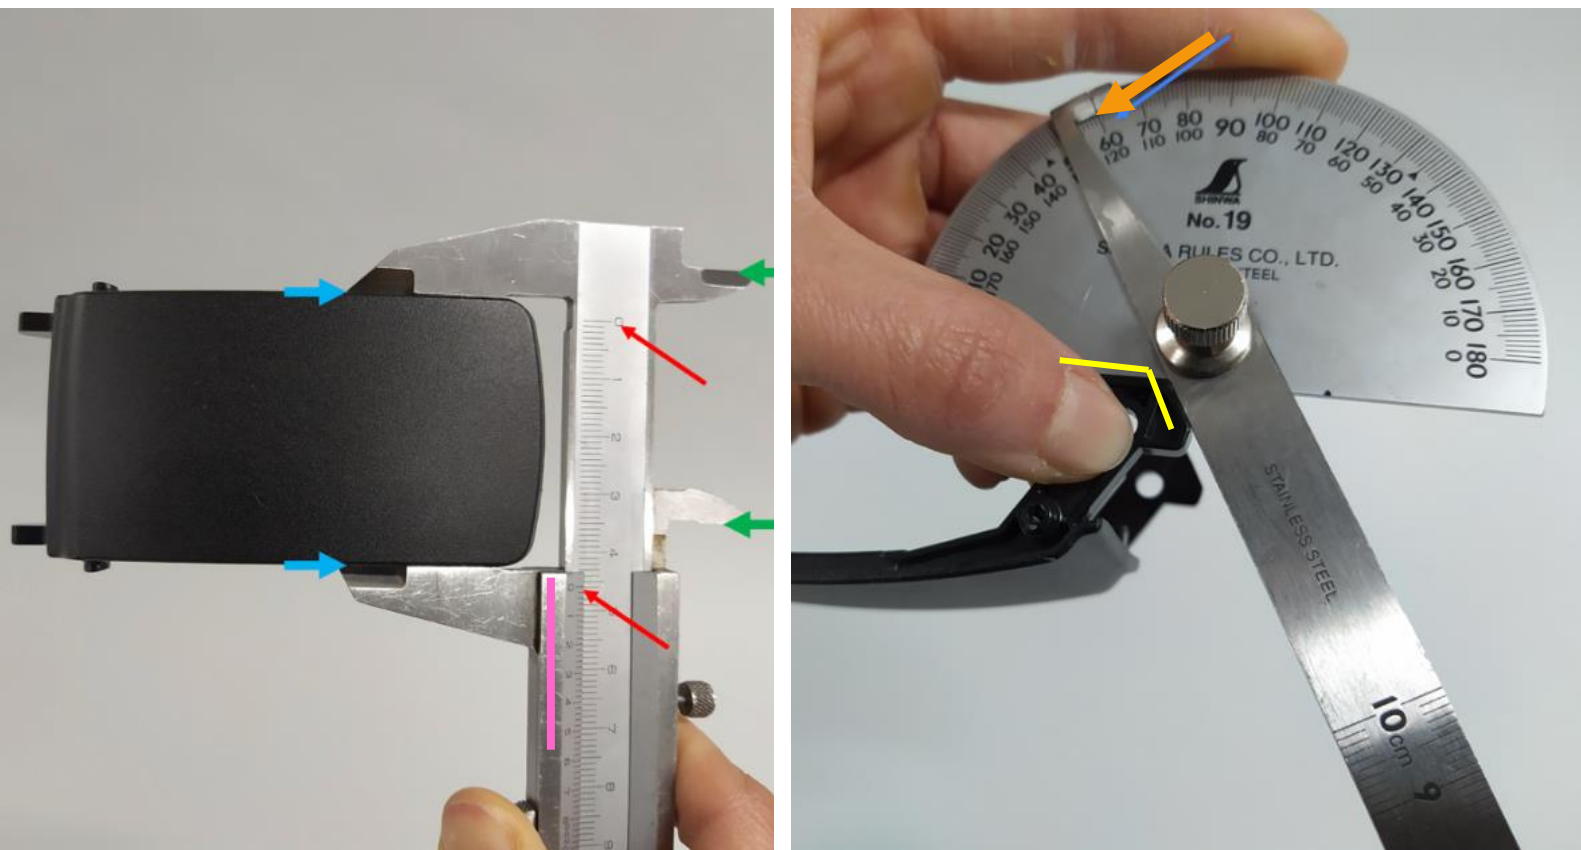

Figure 21 - Measuring distances with a caliper and measuring angles with a protractor.
- Make measurements at an accuracy of at least 0.1mm. You can do this with an analogue caliper. You can see an example of how to use it in Figure 21.
Figure 21 shows examples of how to measure with a protractor and caliper.